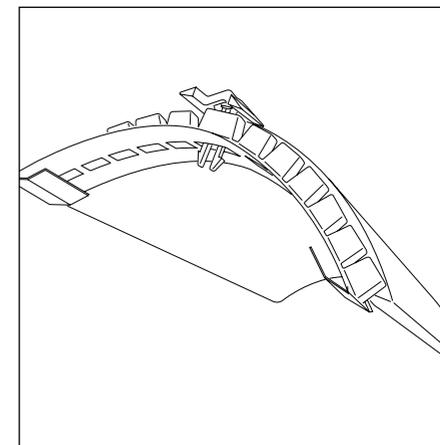

Fig 8
- 8 When the union clamp is fully engaged in the ridge union, it may create an interference fit with the sub-structure. In this case, the protruding length of the clamp can be snapped off or folded below the ridge union flange (Fig. 8).